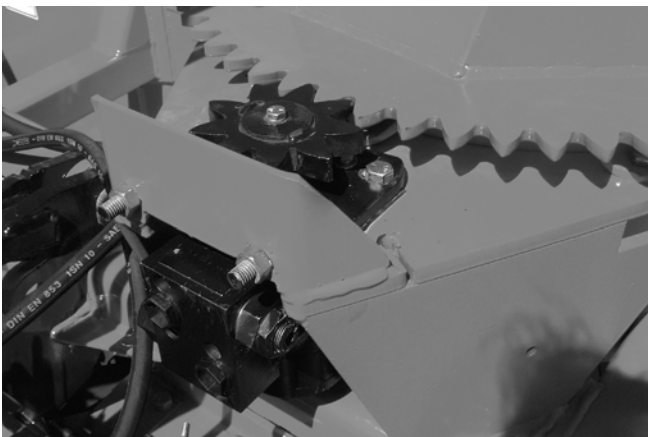

Figure 24
- 3) Install motor and 9 tooth gear. The thickness of the 9 tooth gear is slightly more than the ring-gear. Make sure it exceeds on both sides of the ring gear (Fig. 24).